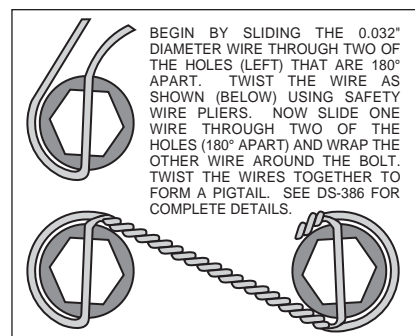

Figure 5. Safety Wire Diagram
- With the larger I.D. side of the rotor (4) facing away from the hat (3), bolt rotor (4) to hat (3) through the backside of the rotor using washers (5) and bolts (6). Using an alternating sequence, apply red *Loctite*® 271 to the threads and torque bolts to 155 **in-lb**. For an added measure of security, the bolts may be safety wired using standard 0.032 inch diameter stainless steel safety wire as shown in Figure 5. Please refer to Wilwood's data sheet DS-386 (available at [www.wilwood.com/Pdf/DataSheets/ds386.pdf](http://www.wilwood.com/Pdf/DataSheets/ds386.pdf)) for complete safety wire installation instructions.